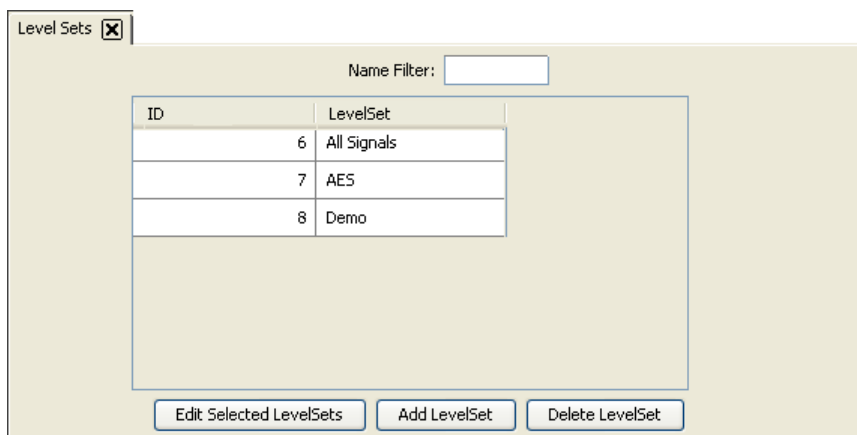

Figure 8-10. Level Sets Page
- 2 From the Navigation area, select the ‘Configuration’ pane and then ‘Level Sets’. The ‘Level Sets’ page appears, as shown in Figure 8-10.